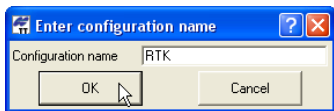

Figure 2-4. Enter Configuration Name
2. On the ***Enter configuration name*** dialog box, type the configuration's name and click **OK** (Figure 2-4).